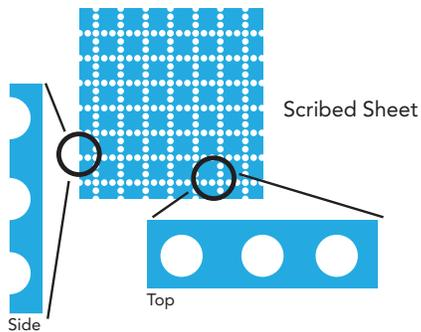

Figure 1: Scribing's jagged edge
1. Know when to laser scribe or laser cut when singulating. The decision of whether to cut or scribe often comes down to whether the application can accept a scribed, or perforated, edge. To scribe, the laser does not cut the material all the way through but instead pulses a line of tiny holes into one surface, with minute strips of material between the holes (see Figure 1). Once the entire sheet has been scribed, the parts can be singulated by breaking the sheet along the perforations, leaving single parts, which will have edges that will appear jagged if viewed under magnification.